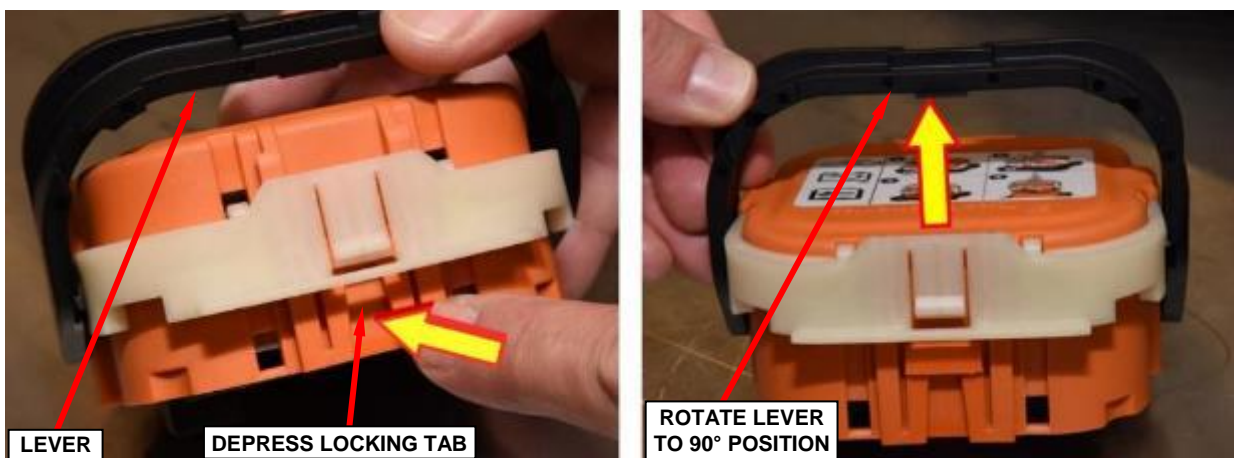

Figure 7 – High-Voltage Manual Service Disconnect Second Stage Latch Release (High-Voltage Manual Service Disconnect Removed from Vehicle for Visual Clarity)
- Depress the locking tab and continue to rotate the lever to the end of travel, 90° position (Figure 7).